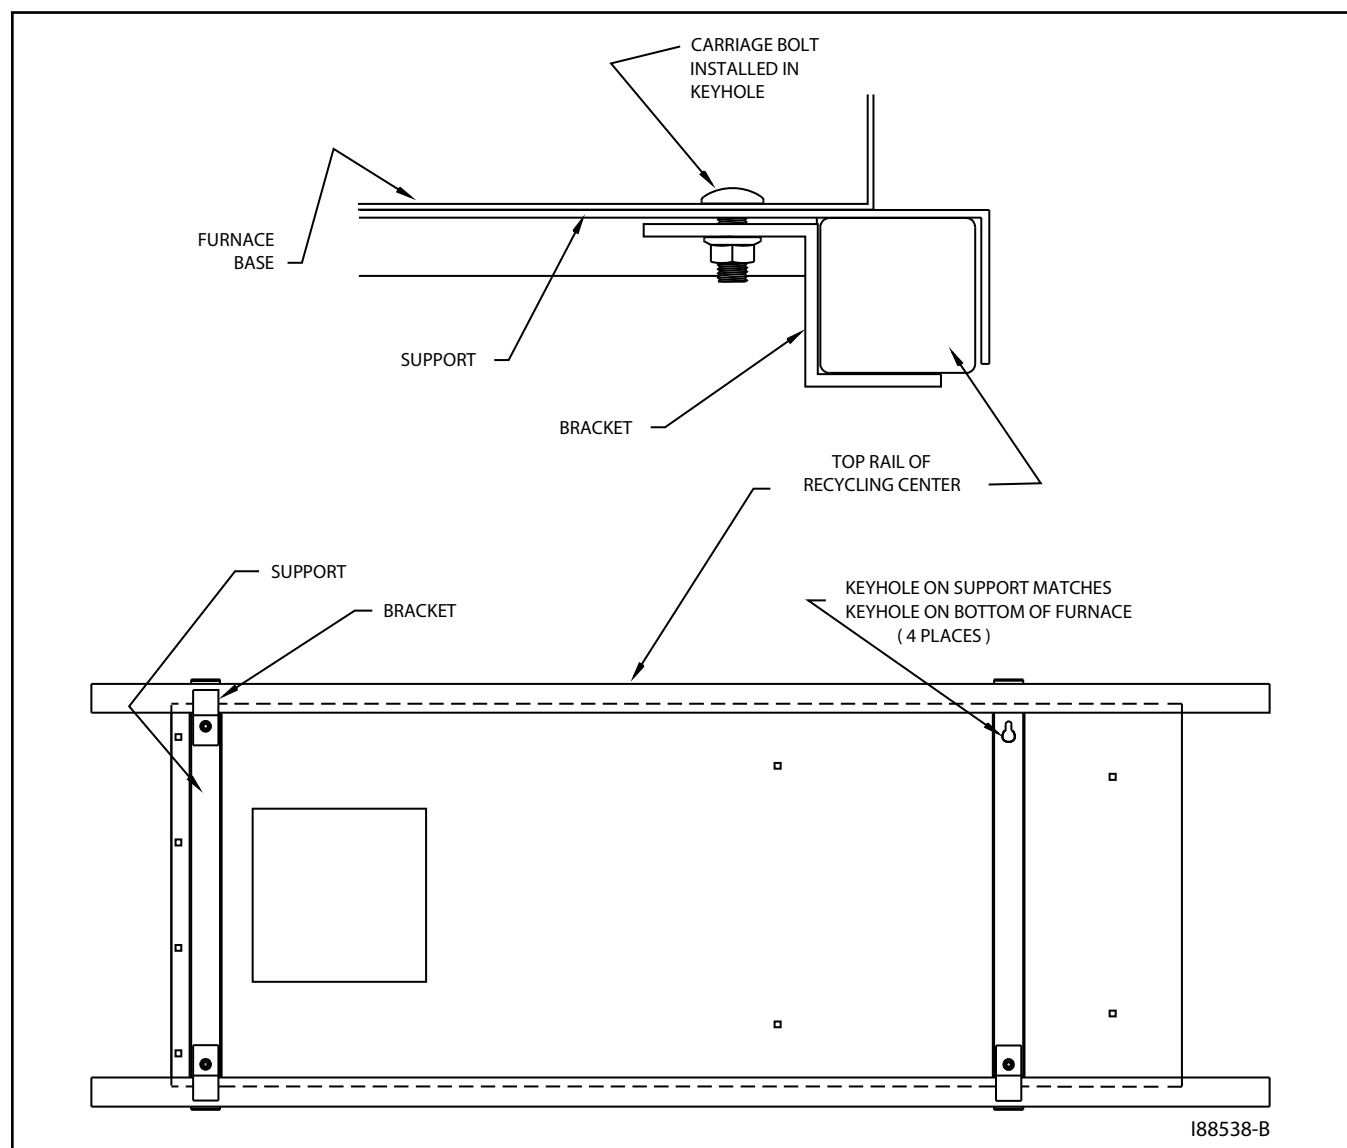

Figure 3G - Securing the CB-140 / CB-1750 / CB-2500 / CB-3250 Furnace w/ Supports
5. **For Recycling Centers with the CB-140 / CB-1750 / CB-2500 / CB-3250 Furnaces:** Install the two additional support brackets across the top rails of the recycling center. Refer to Figure 3G as needed.
1. Refer to Figure 3G. Ensure that the four keyholes on the bottom of the furnace line up with the four keyholes in the support brackets.
As shown in Figure 3G, install the smaller locking brackets and nuts onto the carriage bolts. DO NOT tighten. Ensure that the brackets are positioned so that they wrap around the bottom of the support rail